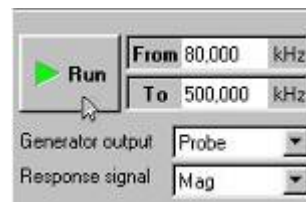

Fig. 4-5
4. Launch a procedure of frequency automatic tuning by means of pressing **Run** button (Fig. 4-5, Fig. 4-3).